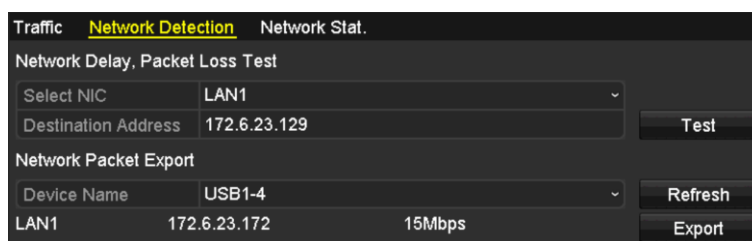

Figure 11. 30 Network Detection Interface
2. Click the **Network Detection** tab to enter the Network Detection menu, as shown in Figure 11. 30.